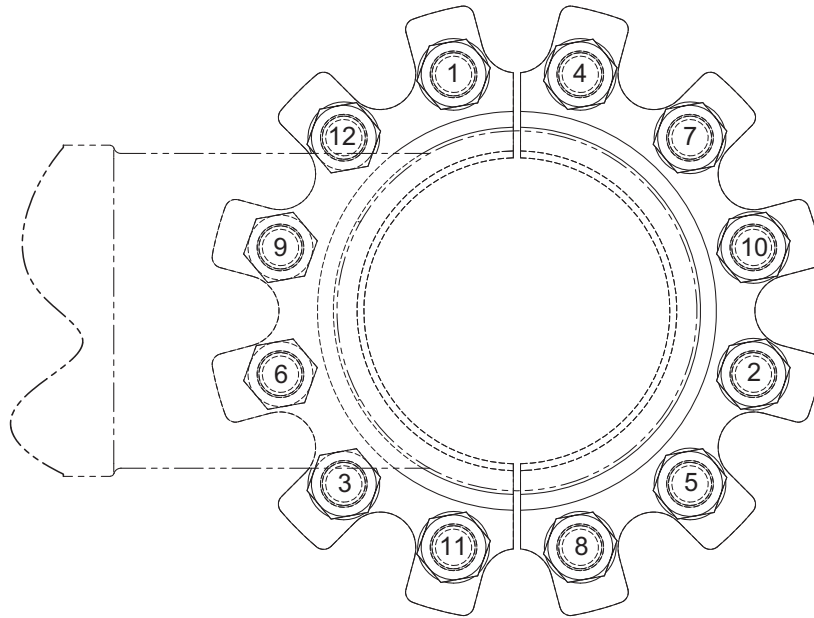

Figure 4: Torque Sequence
3. Following the torque sequence indicated in Figure 4, torque the capscrews in two passes. In the first pass, apply 100 ft-lb torque to the capscrews. In the second pass, apply 350 ft-lb of torque. See Canrig ENG 725.